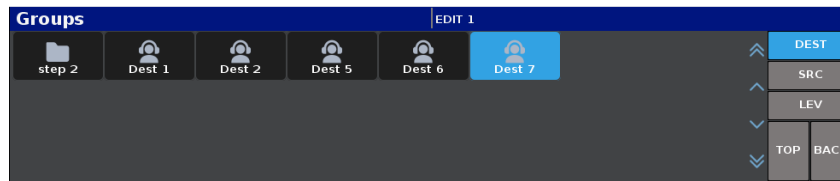

Figure 27 Example of a Default Soft Panel Layout with a Group Window
**Figure 27** provides an example of an Ulritouch soft panel with two group categories defined as EDIT 1 and EDIT 2. Both contain various source and destination names. EDIT 1 also contains a sub-group.